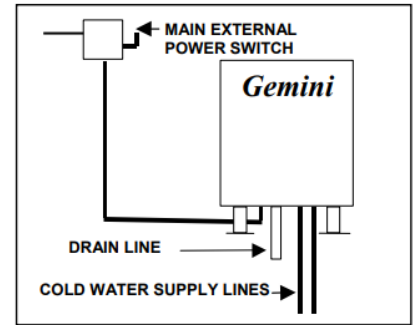

Figure 8-2
7. After the automatic fill cycle has ended, turn OFF power at the external main power switch. See Figure 8-2. DO NOT change the position of the ON/OFF switch.